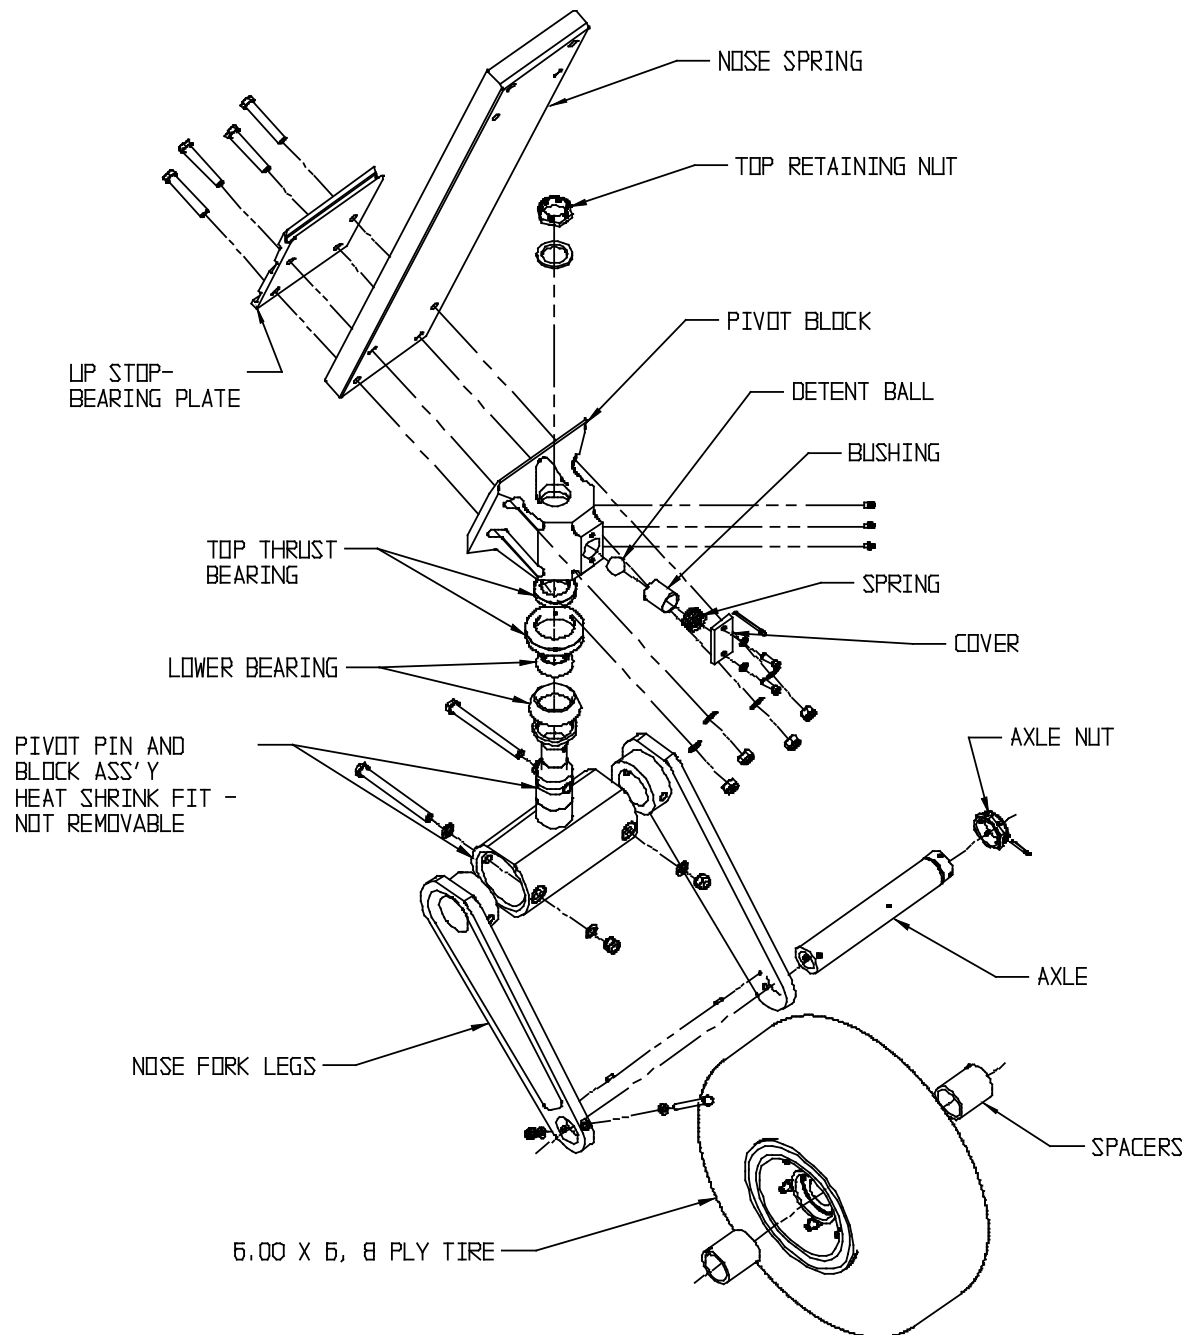

FIGURE 2.10 ASSEMBLY – NOSE GEAR LOWER END
Grease nipples are provided on all wheels and bearings and should be greased every 25 hours or after an extended period of time in the water. Water/heat resistant grease is recommended. The dual piston brakes need no special care other than to maintain the brake disc free of rust, which causes premature brake lining wear. Bleeding is carried out in the usual manner from the bottom up. Although, since the line is “T”ed to the double brake, one must remember to bleed one segment of the Y first, then finish the entire job through the remaining segment. Main wheel tires are standard 8:50 x 10, 8-ply type III aircraft tires, inflated to 50 +/- 5 psi. (Refer to figure 2.10)
On top of pivot block, remove cotter pin from retaining nut. Remove nut. On aft side of pivot block, remove the (2) cap bolts on .25 thick cover. Remove spring. This will loosen retaining ball and lower fork will slide out. Refer to figure 2.10 for assembly.